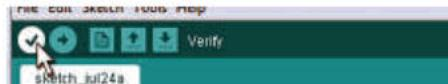

FIGURE 24: Verify button.
- ❑ The next line has six icon buttons shown labeled in **Figures 24** to **29**.
- ❑ **Figure 24** shows the ‘Verify’ icon. After you write a sketch, you’ll click on this icon. This converts the sketch into a form that can be understood by the microcontroller. (This is also known as compiling.)